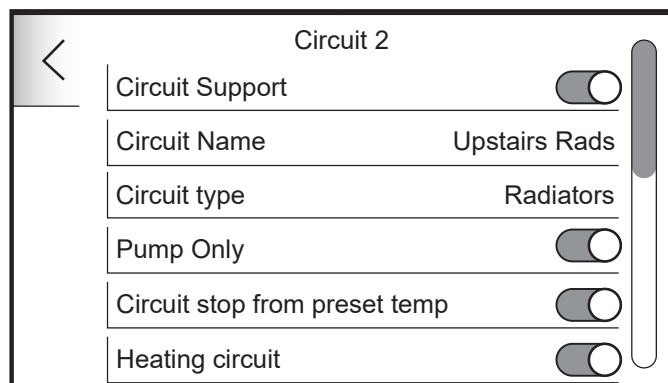

Figure 7-13: Edit Circuit 2 settings
4. Swiping the touchscreen display scroll down to 'CIRCUIT STOP FROM PRESET TEMP'. Tap the icon to switch on. (Refer to Figure 7-13).
'PUMP ONLY' must be enabled. Refer to Figure 7-13.